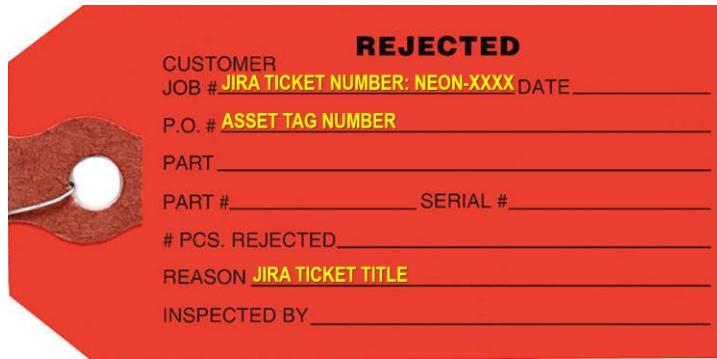

Figure 102. Red Rejected Tag for Defective Assets (MX104219)
1. Ship all defective equipment/assets with a red “Rejected” tag. Figure 102 displays the minimum information requirements for each tag.